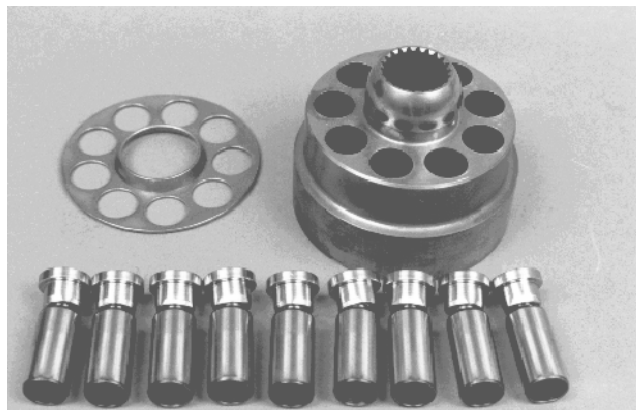

Figure 47
8. Remove slipper guide and piston assemblies from cylinder blocks (Fig. 47).